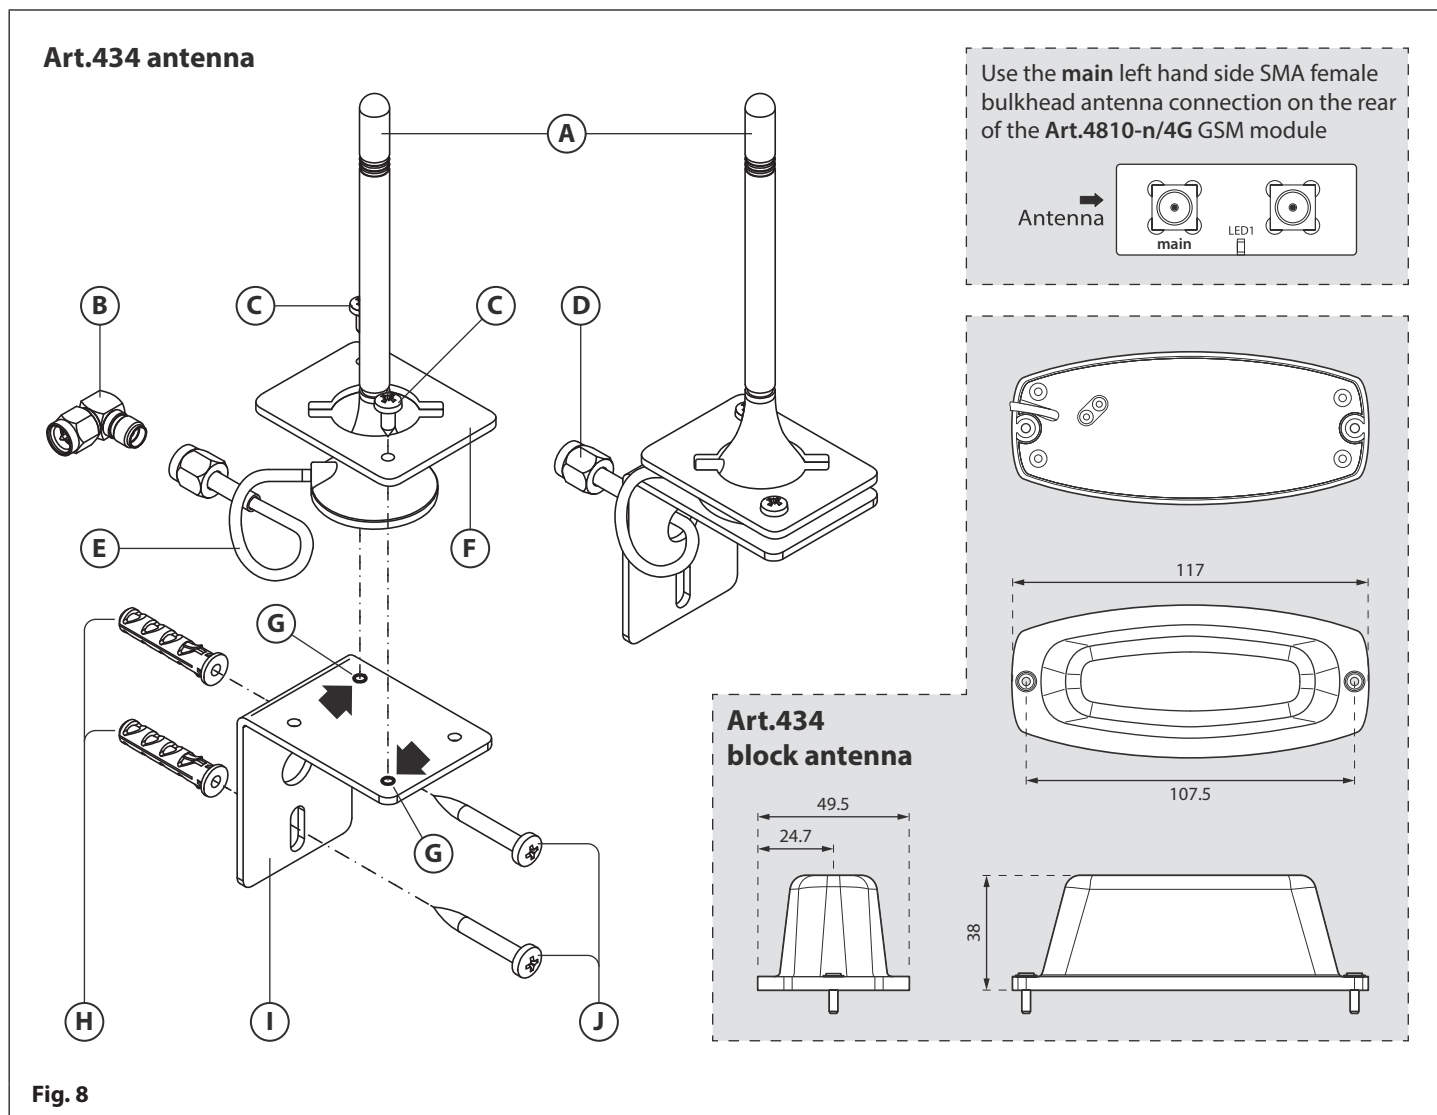

Fig. 8
The **Art.434 GSM antenna**, **Fig.8**, connects to the SMA female bulkhead connection on the rear of the 4G GSM module. A GSM antenna with an SMA male connector should be used (see **Fig.8** inset). Also available to use with both the **GSM4K/4G** and **GSM4KCR/4G** series audiokits is the **Art.434 block antenna**, **Fig.8** inset.
IN INSTANCES WHERE THERE IS A TIGHT FITTING SPACE FOR THE SMA MALE CONNECTOR ON THE ANTENNA CABLE, THE RIGHT ANGLED SMA ADAPTER, **FIG.8 (B)**, CAN BE USED TO HELP REROUTE THE CABLE DOWN THE BACK SIDE OF THE GSM MODULE.